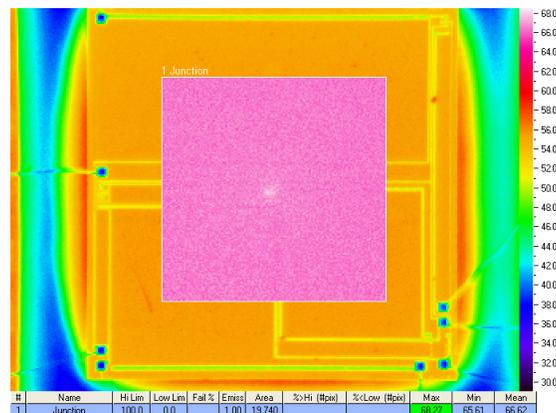

Figure 4 – Junction temperature measurement
6. Record the maximum temperature measured within the region as the junction temperature (see Figure 4).